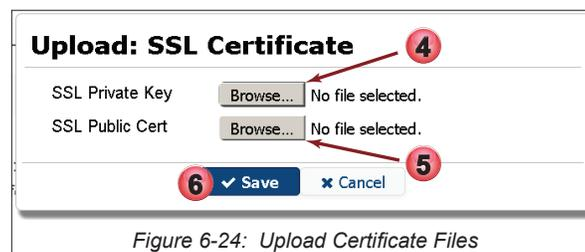

Figure 6-24: Upload Certificate Files
4. To upload an SSL Private Key, click the Private Key **Browse** button then browse for and select the previously saved certificate file, Figure 6-24.